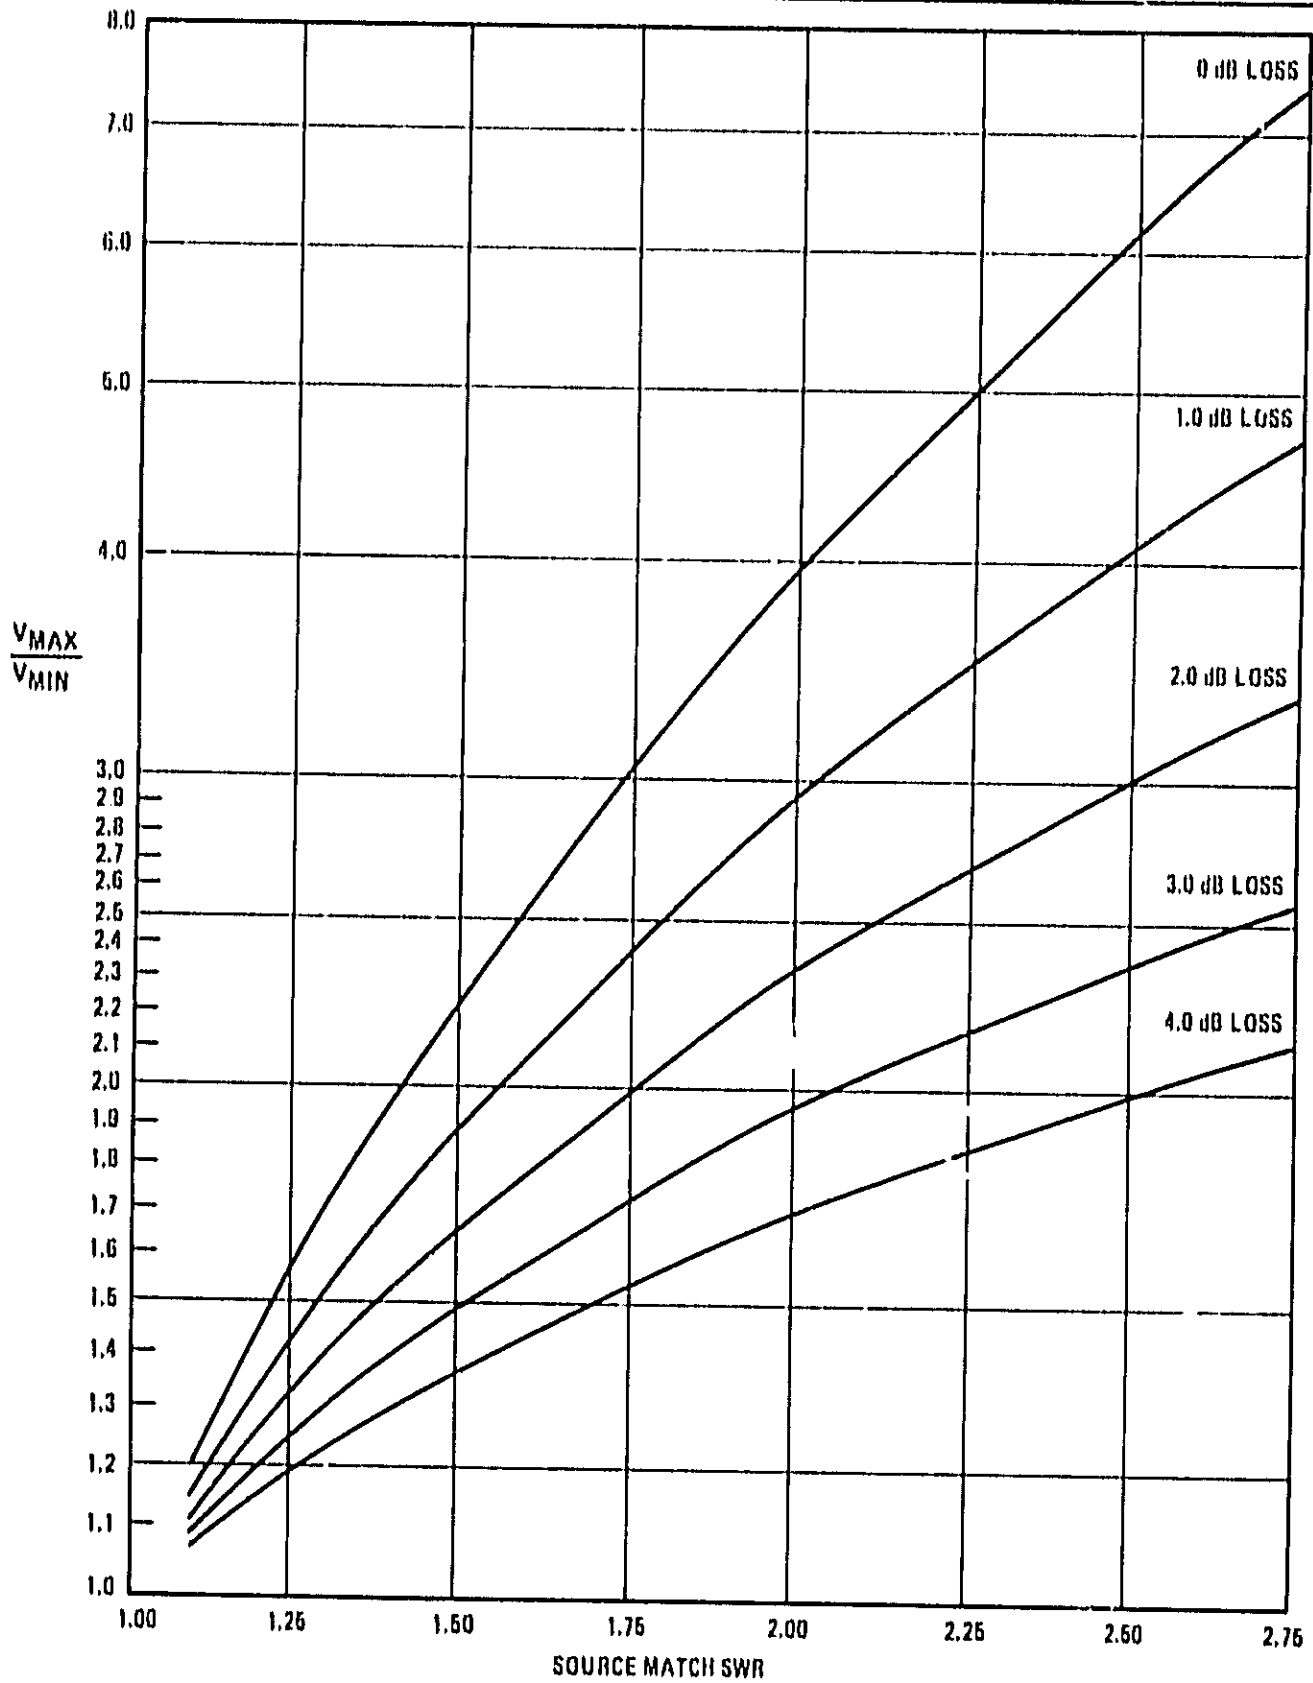

Figure 4-12. Conversion of Oscilloscope Trace to Source Match SWR
5. Convert greatest V_{MAX}/V_{MIN} ratio noted in step 10 into source match SWR using Figure 4-12 on the 0 dB loss line. The SWR should be less than 1.9 (2.1 for Option 002).